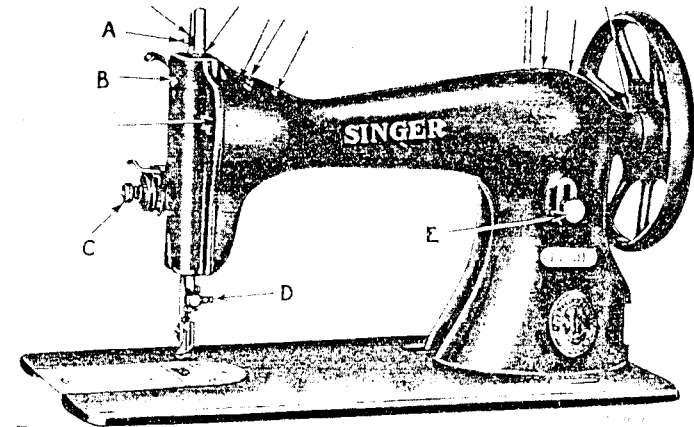
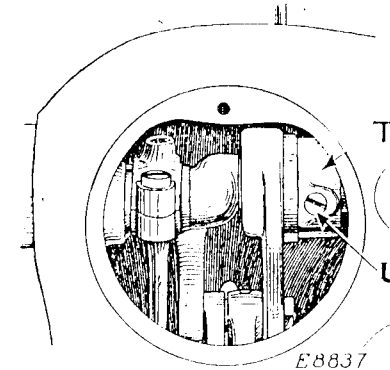

FIG. 2. OILING POINTS AND ADJUSTMENTS AT THE FRONT OF THE MACHINE
FIG. 17. ADJUSTMENT FOR TIMING FEEDING MECHANISM
Oil should be applied at the places shown by arrows in Figs. 2 and 3 and at all other places where there are parts in movable contact. Loosen the thumb screw in the round cover plate at the
loosening the screw (B, Fig. 2) and sliding the face plate upward. Oil the bearings thus exposed and replace the face plate. Oil should be applied to the shuttle bearing in the shuttle race each time a bobbin is replaced.
Turn the balance wheel over toward you until the needle bar moves up to its highest point; loosen the screw (D, Fig. 2, page 5) in the needle clamp and put the needle up into the clamp as far as it will go, with the long groove of the needle toward the left and the eye of the needle directly in line with the arm of the machine, then tighten the screw.
The length of stitch is regulated by the thumb screw (E, Fig. 2, page 5) in the slot on the front of the upright part of the arm. To lengthen the stitch, loosen this thumb screw and move it downwardly. To shorten the stitch, loosen this thumb screw and move it upwardly. When the desired length of stitch has been obtained, tighten the thumb screw (E).
The pressure on the material is regulated by the thumb screw (A, Fig. 2, page 5). To increase the pressure, turn this thumb screw over to the right. To decrease the pressure, turn this thumb screw over to the left.
The tension on the needle thread should be regulated only when the presser foot is down. Having lowered the presser foot, turn the small thumb nut (C, Fig. 2) at the front of the tension discs over toward the right to increase the tension. To decrease the tension, turn this thumb nut over toward the left.
When it is necessary to time the feeding mechanism, press the stitch regulator (E, Fig. 2, page 5) down to its lowest point for the longest stitch and turn up the round cover plate at the back of the machine. Loosen the feed eccentric set screw (U, Fig. 17) and turn the feed eccentric (T, Fig. 17) until the feed is correctly timed as instructed above, then securely tighten the set screw (U).